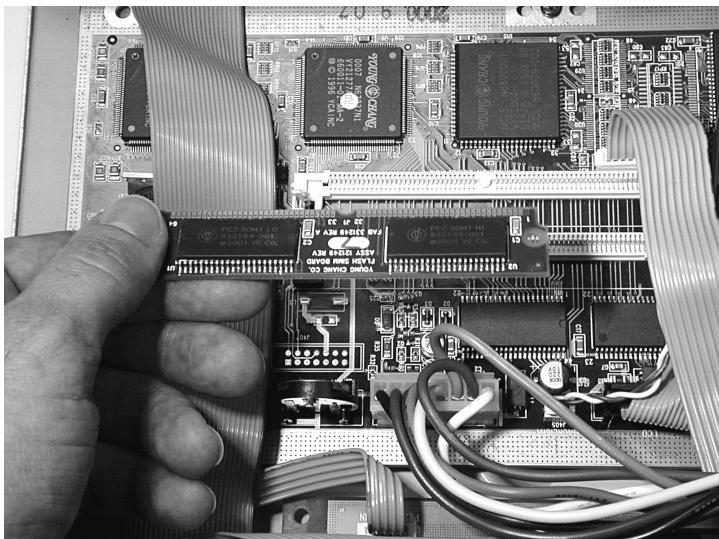

Figure 13 Proper orientation of option board
2. Grasp the board as shown in Figure 13, so that the chips face away from you when you insert the connecting edge of the board into the socket. Notice the semi-circular notch at the center of the connecting edge. This notch aligns with a key on the SIMM socket, and ensures that you position the board correctly in the socket.